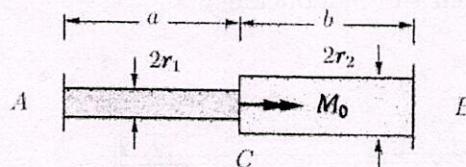

Figure 2
**Q.3** The solid shaft in Figure 2 is made from two segments with circular cross sections. It is fixed at its ends A and B and subjected to a torque  $M_0$ . Calculate the support reactions  $M_A$  and  $M_B$  due to the applied torque and the angle of twist  $\phi_C$  at point C.